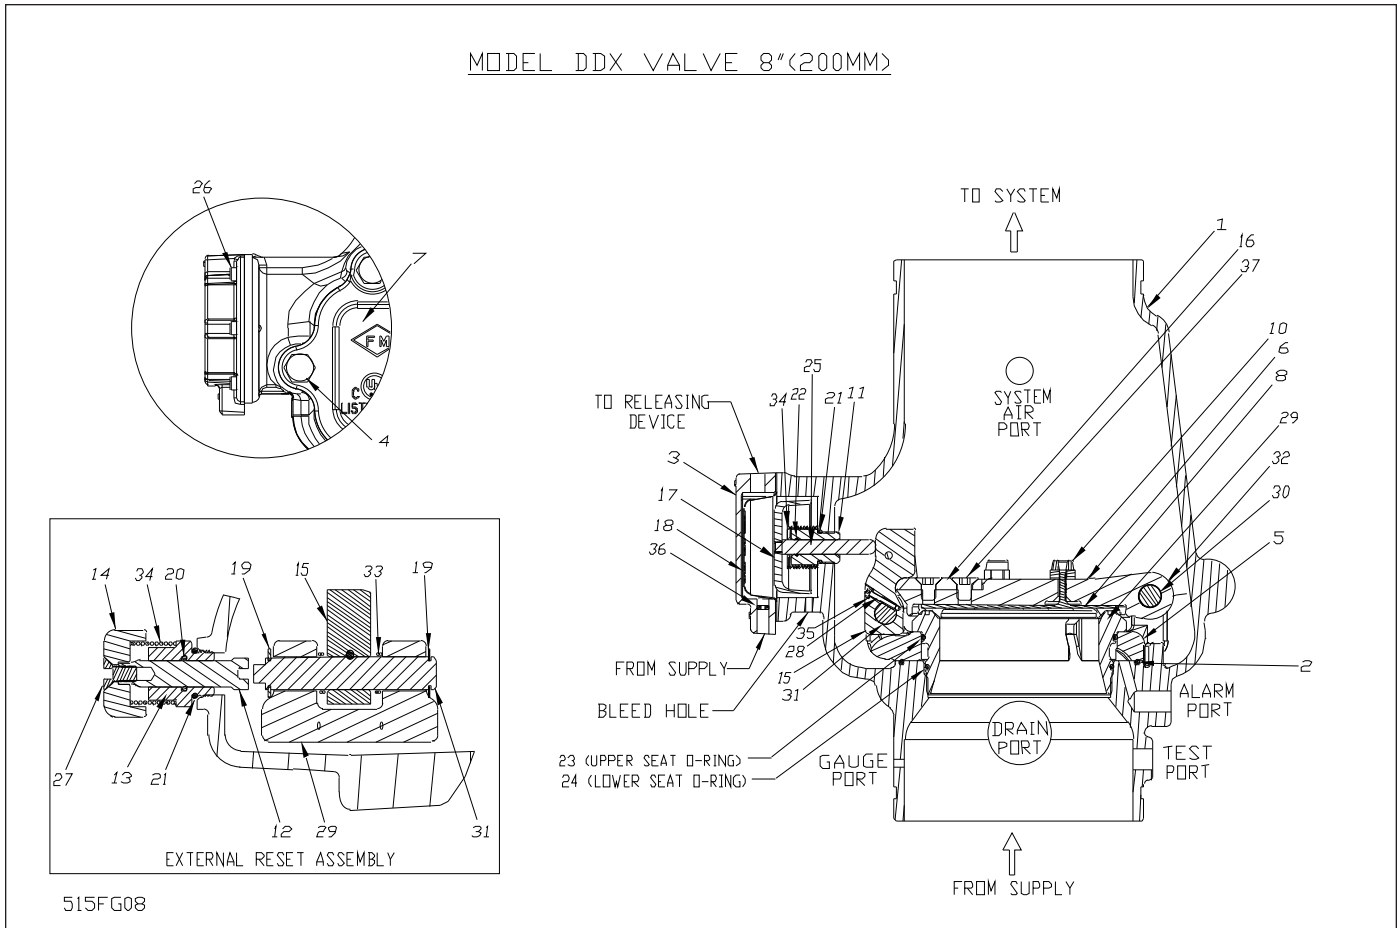
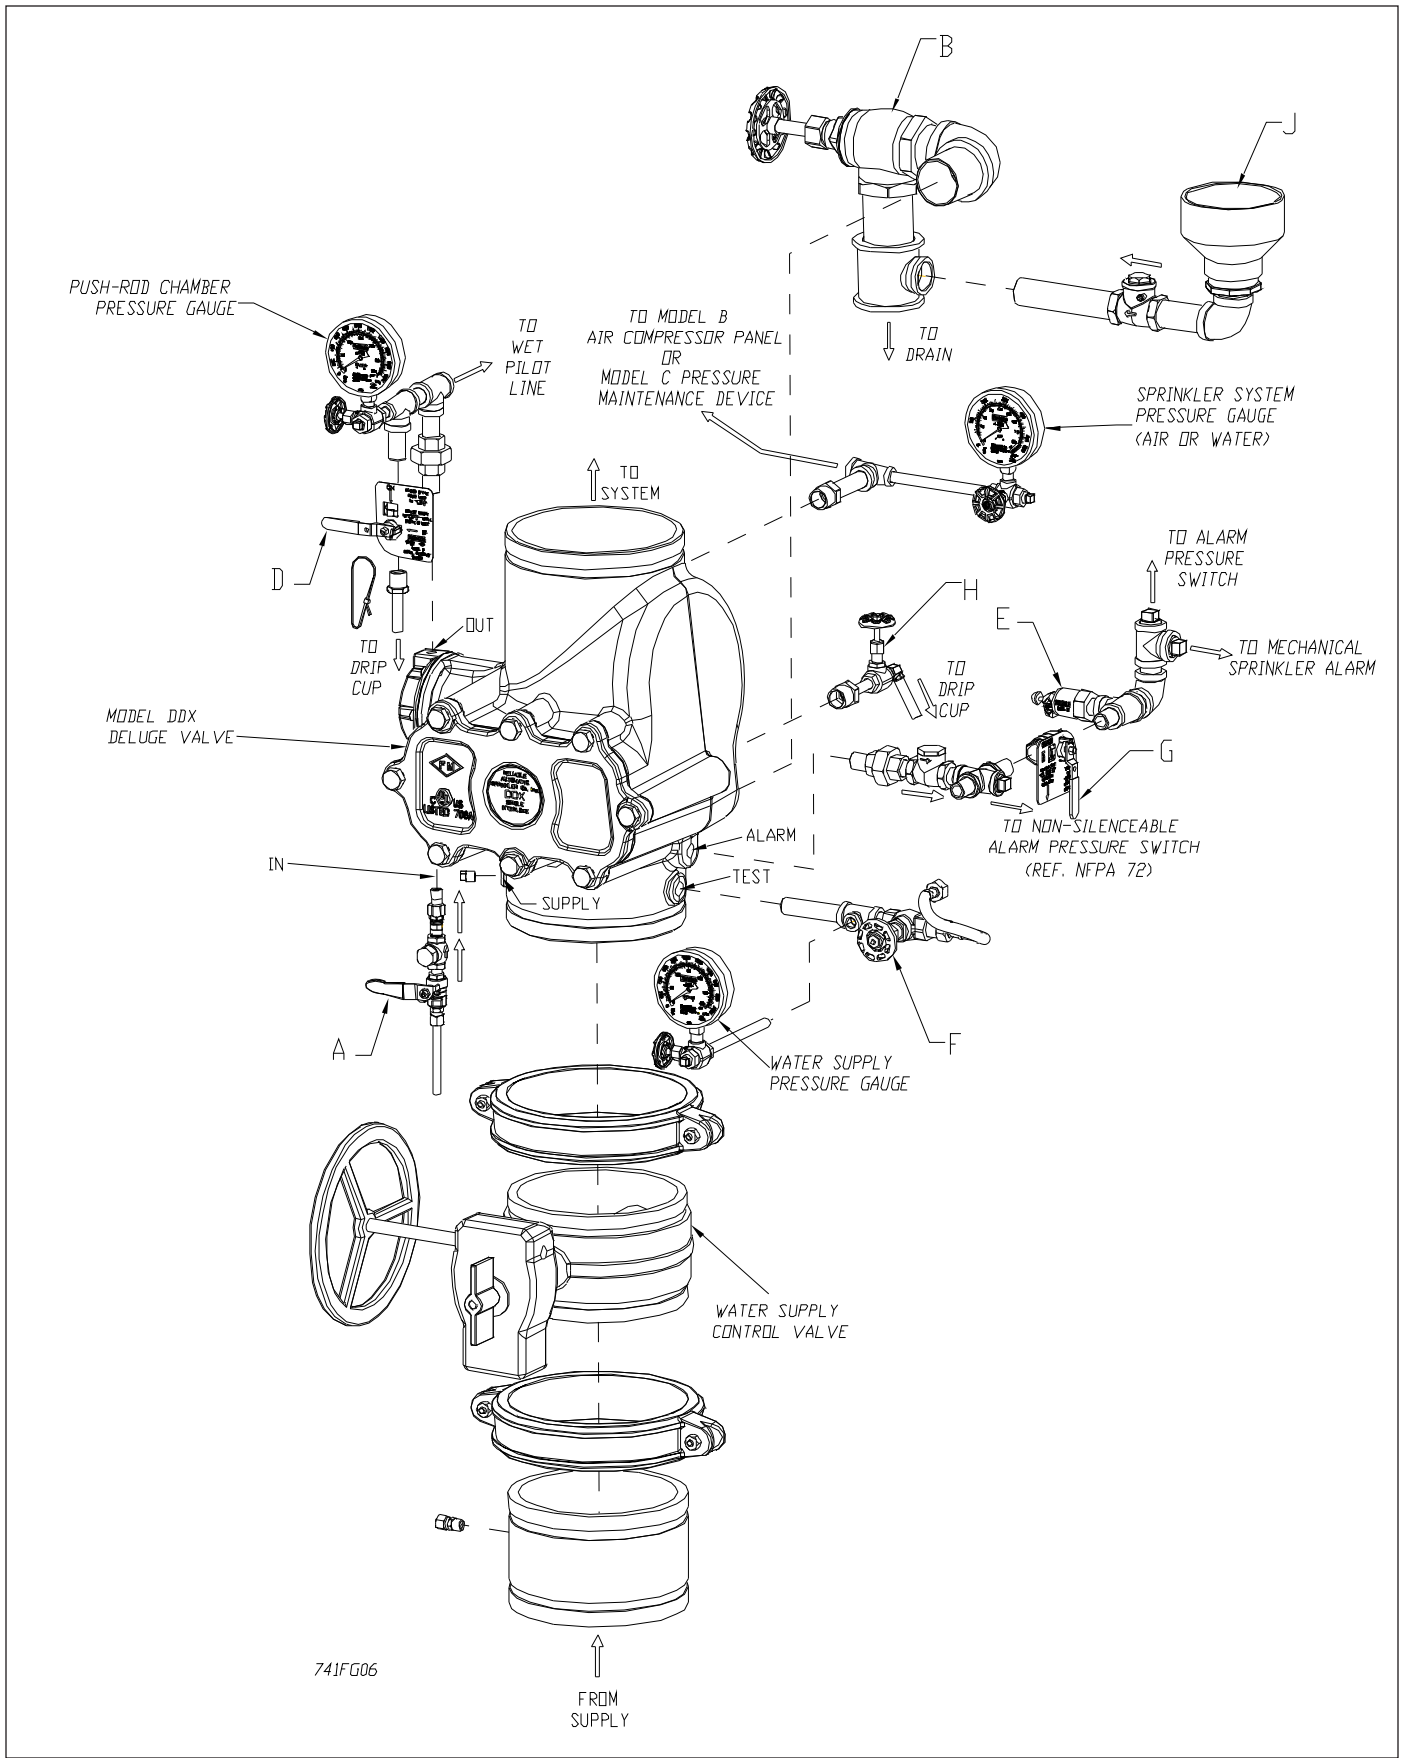

Fig. 5
Fig. 6
- With the Model B Manual Emergency Station, valve D (Fig. 6), open, push in and rotate the Deluge Valve's external reset knob (#14, Fig. 5) clockwise until you hear a distinct clicking noise, indicating that the clapper has closed. **Note:** The reset knob can be rotated only while pressure in the pushrod chamber is vented to atmospheric conditions (0 psig).
- Verify that valve A (Fig. 6) and valve G (Fig. 6) are open.
- Secure the handle of the Model B Manual Emergency Station, valve D (Fig. 6), in the OFF position with a nylon tie (#50, Fig. 2).
2. **Alarm line:** be sure that valve G (Fig. 6) is opened and remains in this position.
3. **Other trimming valves:** check that valve A (Fig. 6) is open as well as all of the pressure gauge's 1/4" 3-way valves. Valves D, F, and H (Fig. 6) should be closed.
4. **Ball drip valve E (Fig. 6):** make sure that valve G (Fig. 6) is open. Push in on the plunger to be sure the ball check is off its seat. If no water appears, the Deluge Valve's water seat is tight. Inspect the bleed hole (see Fig. 5) on the underside of the pushrod chamber for leakage.
6. **Releasing device:** check the wet pilot line and the Model B Manual Emergency Station, valve D (Fig. 6) for leakage. Also verify that the tubing drain line from the Model B Manual Emergency Station is not pinched or crushed which could prevent proper releasing of the Deluge Valve.
7. **Testing alarms:** make sure that valve G (Fig. 6) is open. Open valve F (Fig. 6) permitting water from the supply to flow to the electric sprinkler alarm switch and to the mechanical sprinkler alarm (water motor). After testing, close this valve securely. Push in on the plunger of ball drip valve E (Fig. 6) until all of the water has drained from the alarm line.
8. **Operational test:** Open the Model B Manual Emergency Station, valve D (Fig. 6). Note: An operational test will cause the Deluge Valve to open and flow water into the sprinkler system.
9. Secure Model B Manual Emergency Station, valve D (Fig. 6), in the OFF position with a nylon tie (#50, Fig. 2) after the Deluge Valve is reset.
Refer to Fig. 6
2. **Leakage out of the ball drip valve E (Fig. 6).**
This condition can be caused by leakage past the system side of the Model DDX Deluge Valve's seal assembly (#8, Fig. 5). Be sure that this surface is free of any type of debris. To eliminate leakage due to a water column, refer to the section in this bulletin marked "Draining Excess/Condensate Water From System". If the problem continues proceed to the following section.
- b. **Leakage, air or water from the ball drip valve, E (Fig. 6):**
If system air is leaking out the ball drip valve, the problem is either damage to the airside of the Model DDX Deluge Valve's seal assembly (#8, Fig. 5), seat (#29, Fig. 5), mounting ring O-ring (#2, Fig. 5) or the upper seat O-ring (#23, Fig. 5). If supply water is leaking out the ball drip valve, the problem could be caused by damage to the Model DDX Deluge Valve's seal assembly (#8, Fig. 5), seat (#29, Fig. 5), mounting ring O-ring (#2, Fig. 5) or lower seat O-ring (#24, Fig. 5). The following section provides instructions to correct both conditions:
- A. Shut down the valve controlling the water supply to the Deluge Valve and open the 2" main drain valve B (Fig. 6). Open the water column drain valve H (Fig. 6). Close the push rod chamber supply valve A (Fig. 6) and open the Model B Manual Emergency Station D (Fig. 6).
Model DDX 8" (200mm) Deluge Valves Parts List (Refer to Fig. 5)
- B. Remove the Deluge Valve's front (handhold) cover (#7, Fig. 5) and inspect the seat (#29, Fig. 5), clapper (#6, Fig. 5), and seal assembly (#8, Fig. 5) for damage.
If inspection indicates damage to the seal assembly (#8, Fig. 5), replace as follows:
Remove the bumpstop nuts (#10, Fig. 5) and remove the seal assembly (#8, Fig. 5). Install a new seal assembly (#8, Fig. 5) and thread the bumpstop nuts (#10, Fig. 5) onto the threaded stud of the seal assembly (#8, Fig. 5) and tighten finger tight plus 1/4 to 1/2 turn.
At the rear of the valve, disconnect the water column drain trim section starting with the elbow connector (#11, Fig. 2). Then remove the 1/4" globe valve (#20, Fig. 2), followed by the 3/4" x 1/4" reducing bushing (#7, Fig. 2). Remove the retaining ring (water column drain line side) from the clapper hinge pin (#30, Fig. 5) and push this pin through the handhold cover and remove the clapper subassembly. Replace the seal assembly (#8 Fig. 5) as described previously. Inspect the clapper (#6, Fig. 5) visually before reinstalling. Reinstall in the reverse order making sure the clapper spacers (#32, Fig. 5) are in their proper position. If the seat (#29, Fig. 5) is damaged or it is suspected that the leakage is through the lower O-ring (#24, Fig. 5), the seat-clapper sub-assembly is easily removed as a unit as follows: Using Reliable P/N 6881608000 Seat Wrench, remove the seat by unscrewing. This will loosen the seat-clapper-mounting ring subassembly. Reach into the valve and grasp the seat and remove it from the valve. Then remove the clapper-mounting ring subassembly. Visually examine all components of the seat-clapper-mounting ring sub-assembly replacing any component that appears damaged. New O-rings (#2, #23 & #24, Fig. 5) should always be used for reassembly.
Clean the bore of the valve body. Lubricate the bore with O-ring grease. Lubricate and install the O-rings (#23 & #24, Fig. 5) onto the seat and mounting ring O-ring (#2, Fig. 5) into the body (#1, Fig. 5). Insert the clapper-mounting ring sub-assembly into the handhold opening of the Deluge Valve. Align the mounting ring so that the Lever (#15, Fig. 5) is near the pushrod (#25, Fig. 5) and the mounting ring (#5, Fig. 5) "ears" are between the tabs of the valve body (#1, Fig. 5). Insert the seat (#29 Fig. 5) into the clapper-mounting ring subassembly. Start to tread the seat (#29, Fig. 5) into the body by hand, then tighten until the seat (#29, Fig. 5) with seat wrench 6881608000 until it bottoms out on the mounting ring (#5, Fig. 5). Verify that the seat-clapper-mounting ring sub-
assembly is in the fully down position between the tabs of the body, and check to see that the lever (#15, Fig. 5) lines up with the push rod (#25, Fig. 5). Loosen and reassemble if necessary. Reassemble the handhold cover (#7, Fig. 5) and set up the Model DDX Deluge Valve as per the section "Resetting Model DDX Deluge Valve Systems."
A small bleed hole is located on the underside of the push rod chamber (see Fig. 5). If there is air or water leakage coming out of this hole, do the following:
- Shut down the valve controlling water supply to the Deluge Valve. Relieve the inlet pressure by opening the 2" drain valve B (Fig. 6). Close the valve A (Fig. 6) that supplies water to the push rod chamber, and open the Model B Manual Emergency Station, valve D (Fig. 6).
- Remove the trim at the unions nearest to the push rod chamber cover (#3, Fig. 5).
- Take the push rod chamber cover (#3, Fig. 5) off by removing the six retaining screws (#26, Fig. 5).
Water coming out of the bleed hole is caused by a leaking diaphragm (#18, Fig. 5). Visually inspect the push rod chamber cover (#3, Fig. 5) and piston (#17, Fig. 5) to determine what could have damaged the diaphragm and correct. Install a new diaphragm **NOTE: The diaphragm has two different surfaces. It is not bi-directional. It will fail if installed backwards!** Roll the diaphragm so that the smooth surface (the pressure side) conforms to the inside of the push rod chamber cover and reassemble the six retaining screws (#26, Fig. 5) with an installation torque of 15 foot-pounds. Set up the Model DDX Deluge Valve as per the section "Resetting the Single Interlock Preaction System".
System air coming out of the bleed hole is caused by a defective O-ring assembled to the push rod guide (#11, Fig. 5). Remove the piston-push rod subassembly, push rod spring (#34, Fig. 5), and push rod guide (#11, Fig. 5). Verify by hand turning, that the push rod cannot be unscrewed from the piston. Replace all O-rings and the push rod guide (#21 & #22, Fig. 5). The correct installation torque for the push rod guide is 35 inch-pounds. **CAUTION: Do not over tighten the push rod guide.** Reassemble the components that were initially removed. Re-install the diaphragm (#18, Fig. 5) if it appears to be in good shape, otherwise, replace it also. **NOTE: The diaphragm has two different surfaces. It is not bi-directional. It will fail if installed backwards!** Roll the diaphragm so that the smooth surface (the pressure side) conforms to the inside of the push rod chamber cover and reassemble the six retaining screws (#26, Fig. 5) with an installation torque of 15 foot-pounds. Set up the Model DDX Deluge Valve as per the section "Resetting the Single Interlock Preaction System".